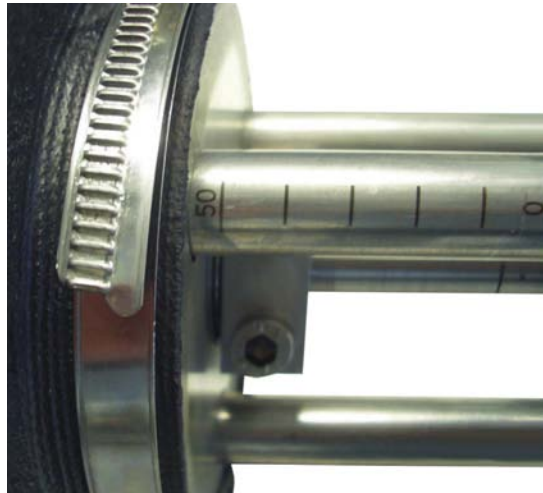

Fig. 3.6: Bellows flange on the pressure side (5.7) before mounting the spindle assembly (5)
**3.2.8 Mounting the spindle assembly (5)**
**Note** Lube all O rings and the docking rod (3) with silicone grease before mounting the spindle assembly (5).
- ▶ Prepare the spindle assembly (5) so that the bellows flange on the pressure side (5.7) is about at position “50” (see **Fig. 3.6**).